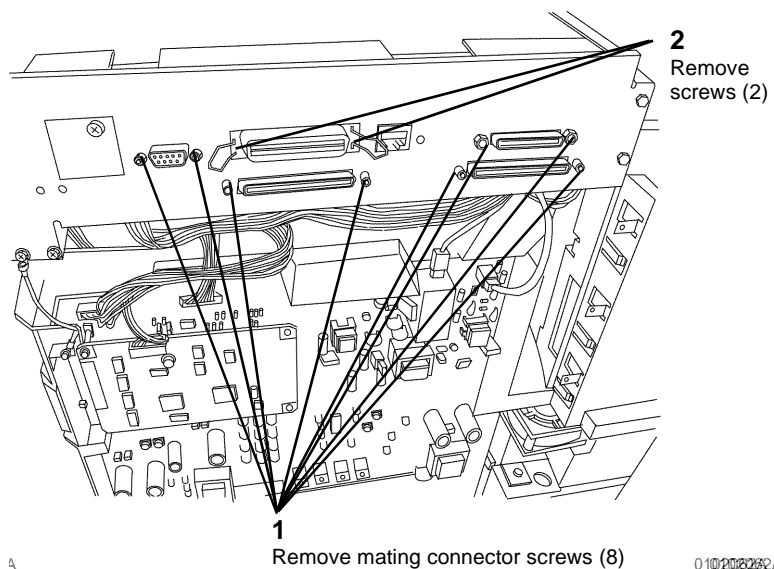

Figure 1 Removing mating connector screws and screws.
- a. Remove screws (11) from the ESS Top Cover.
5. Remove the mating connector screws (8) and screws (2) securing the jacks to the plate (Figure 1).